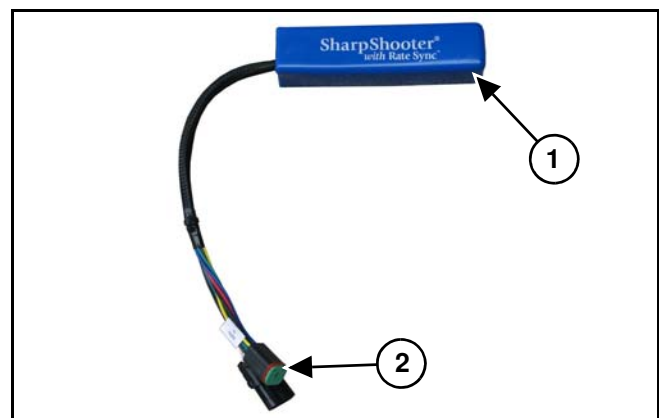

Figure 8
[Figure 8] - With cable ties, mount and secure the valve driver(s) (1) to the boom, near the first nozzle valve on each boom section.